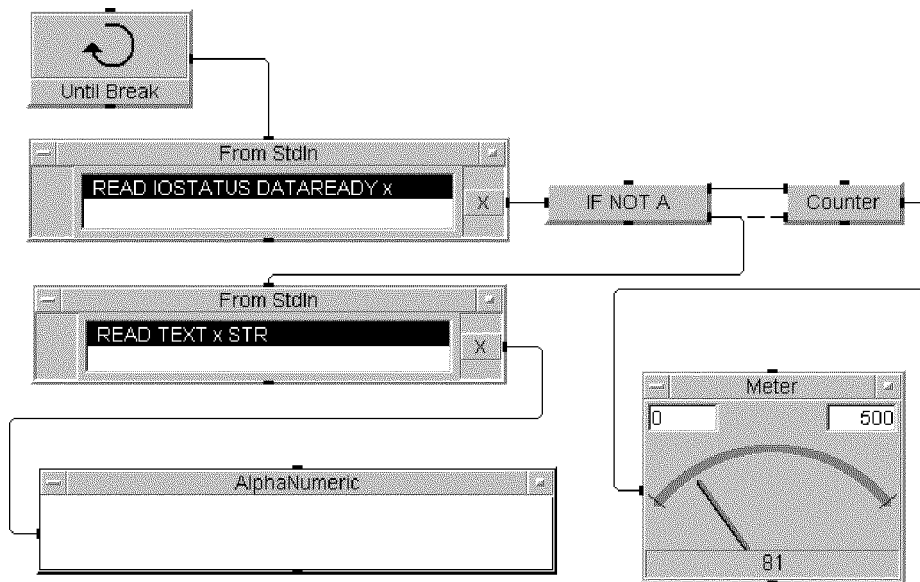

Figure 6-10. Using READ IOSTATUS DATAREADY for a Non-Blocking Read
Figure 6-10 shows a program where **READ IOSTATUS DATAREADY** is used to detect data on the StdIn pipe.
The program in Figure 6-10 shows the use of a `READ IOSTATUS DATAREADY` transaction in `From StdIn`. The transaction returns a zero (0) if no data is present on the `stdin` pipe. If data is present, a one (1) is returned. The `If/Then/Else` is used to test the returned value of the `READ IOSTATUS DATAREADY` transaction. If the result is 1, then the second `From StdIn` is allowed to execute, reading the data typed into the HP VEE start-up terminal window. If no data has been typed into the start-up terminal window (or a `Return` has not been typed), execution continues again at the start of the thread. Note the use of `Until Break` to iterate the thread so the `From StdIn` with the `READ IOSTATUS DATAREADY` transaction is continually tested.